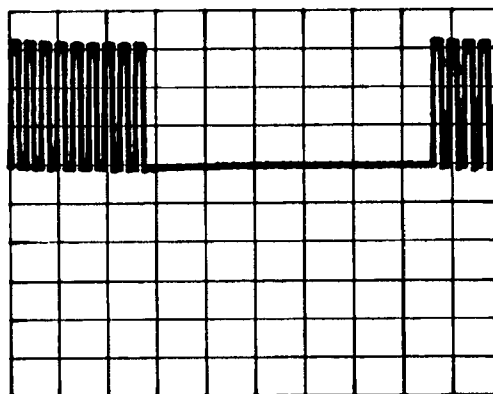

Figure 8-28. A2A11 CLK 1 Test Point
3. Connect channel 1 of the oscilloscope to A2A11 CLK 1. The waveform should be as shown in figure 8-28.